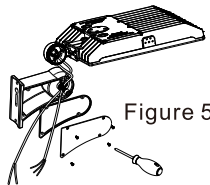

Figure 5
Step 2: Put input wire of the light across the bracket. (Figure 5)